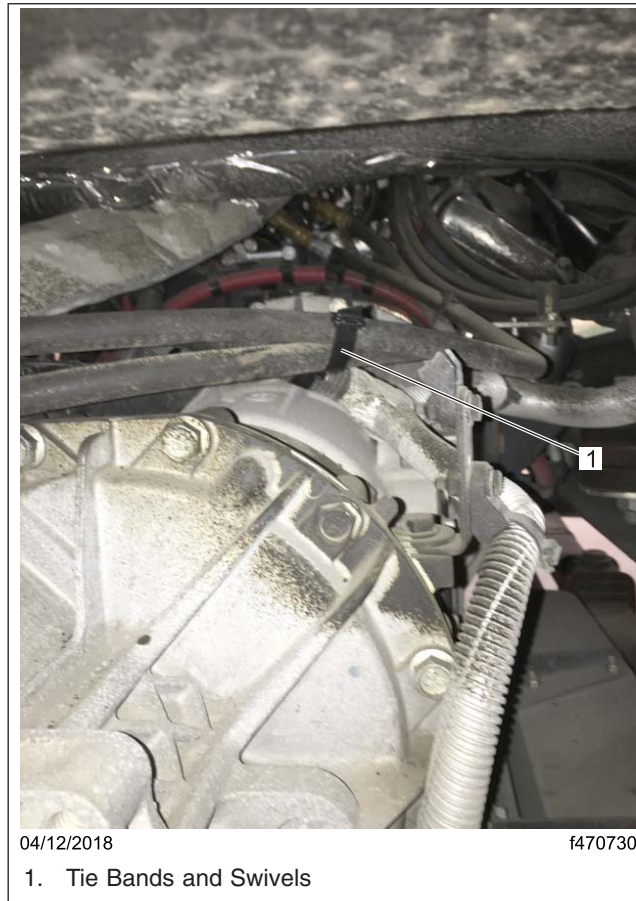

Fig. 7, Securing the Hoses to the Harness
7. Using tie bands and dual swivels, secure the hoses to the harness crossing over the transmission. See Fig. 7.